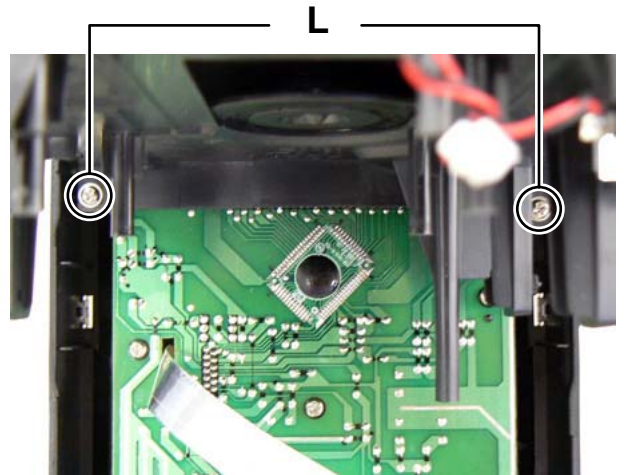

Fig.15
**3.1.7 Removing the CD DOOR assembly (See Fig.15)**